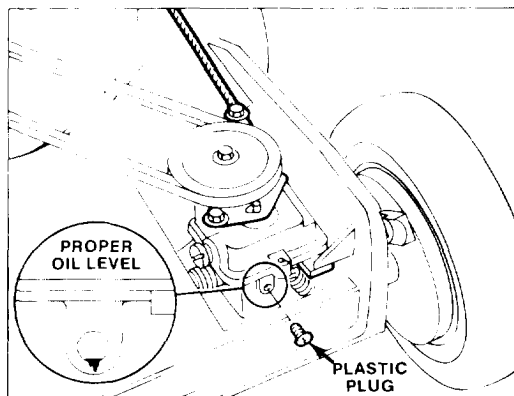

Figure 17
2. CHECKING GEAR OIL LEVEL (Fig. 17) — Position mower on level surface and clean around plastic plug. Remove plastic plug and watch for oil to ooze out of hole. If gear oil oozes out, quickly install plastic plug because oil is at proper level. If oil does not flow, add gear oil; see step 3.